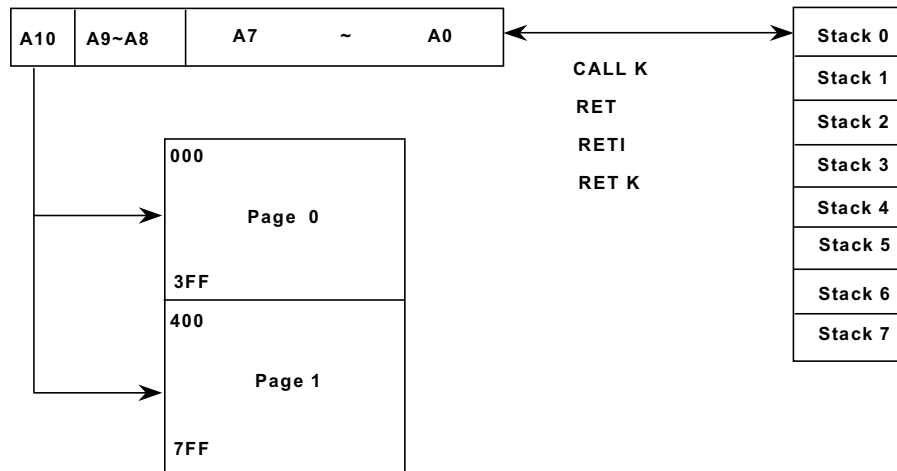

Fig. 4 Program counter organization
- The prescaler (RC) is assigned to TCC.
- Depending on the device type, R2 and hardware stack are 11-bits wide. The structure is depicted in Fig. 4.